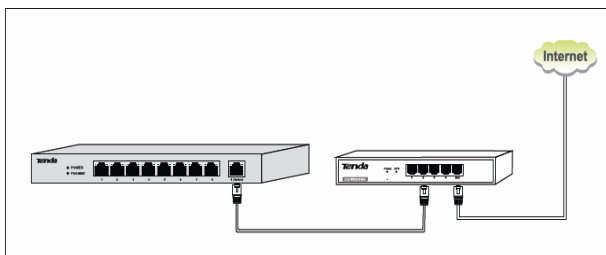

Figure 3-1 Installation with upstream network device
Step 1: Use a RJ45 Ethernet cable to connect an upstream network device (such as another switch or a router) to the Normal/Uplink port which is port 9 on the switch, shown as Figure 3-1.